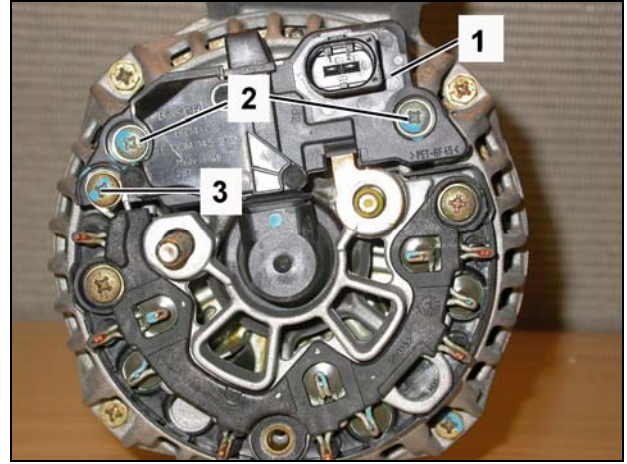

Figure 18
2. Remove three Philips head screws (2, 3, Figure 18); remove regulator (1) from the generator.
3. Install new regulator (1) with **original** Philips head screws and torque screws to: